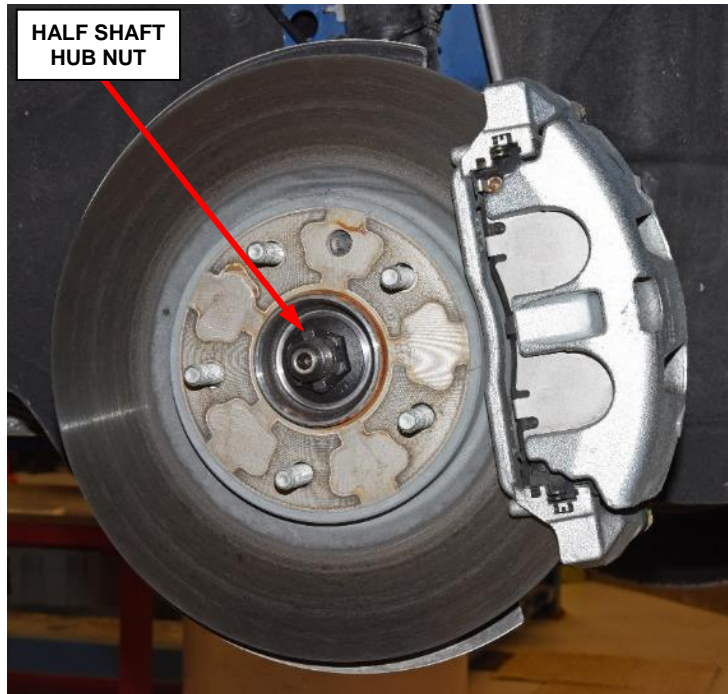

Figure 5 – Half Shaft Hub Nut
3. While a helper applies the brakes to keep hub from rotating, remove and **DISCARD** the half shaft hub nut (Figure 5).
46. While a helper applies the brakes to keep hub from rotating, install a NEW half shaft hub nut and tighten the nut to 163 N·m (120 ft. lbs.) (Figure 5).